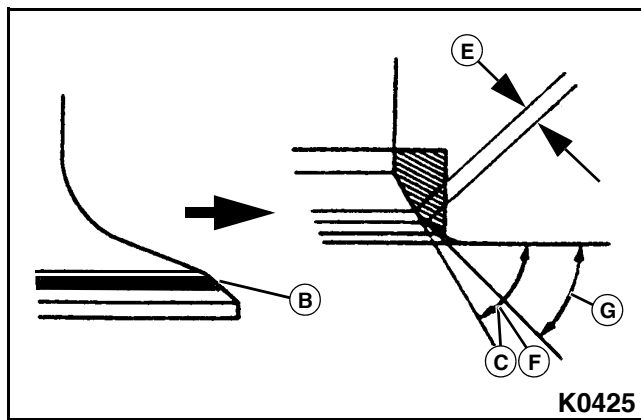

Figure 3-145
3. If seat circle (B) is closer to the lower side of the valve face surface, grind the seat with a 60° (C) and 45° (G) milling cutter for the intake seats. For the exhaust, grind the seat with a 65° (F) and 45° (G) milling cutter, while maintaining the contact width (E). **See Figure 3-145.**